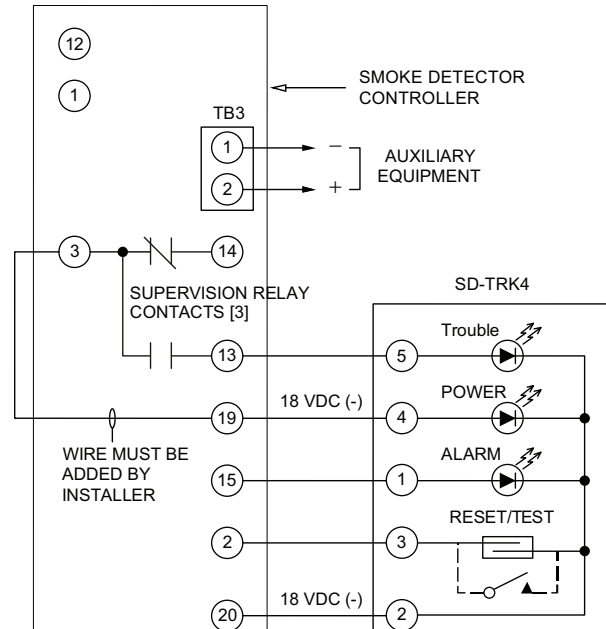

Fig. 31 — Remote Test/Reset Station Connections
The test/reset station dirty sensor test checks the test/reset station's ability to initiate a sensor dirty test and indicate the results. It must be wired to the controller as shown in Fig. 31 and configured to operate the controller's supervision relay. For more information, see "Changing the dirty sensor test" operation on page 23.
1. Verify that the remote test/station is wired as shown in Fig. 31. Repair or replace loose or missing wiring.